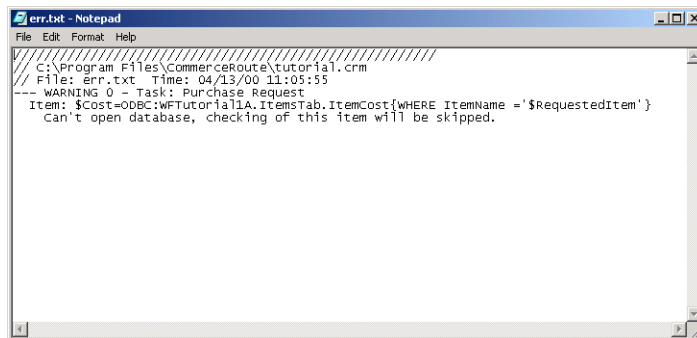

Figure 39-3. Errors are logged in err.txt file. It may also contain information about errors for other models that you have previously encountered.
- ❶ With your process open, click the **Check** button on the toolbar to have the system check for any errors.
- ❷ If you have already encountered errors and you have not changed the error file location, then you will see a dialog asking if you want to save or overwrite previous errors.
- ❸ Once the error check has finished, you will see a notification dialog box (see 39-2, below). You can then either go to the referenced trouble spot and fix your error, or fix the error later by viewing the error file (see Figure 39-3, below).